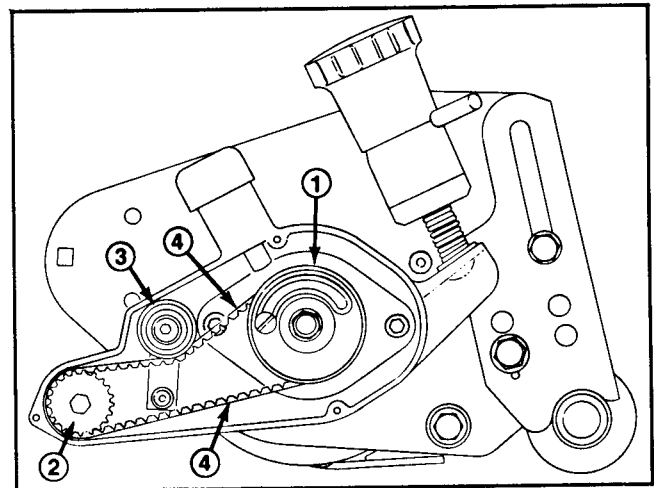

Figure 22
2. Apply 5-10 lb. of force on the belt midway between the pulleys to check tension on the drive belt. There should be 1/4 inch belt deflection. If deflection is not 1/4 inch, loosen the idler pulley pivot screw (Fig. 22). Pivot the idler to get proper tension and tighten the allen head screw to a torque of 7-10 ft-lb.
3. Install groomer reel housing cover. Install clutch knob and tighten two (2) set screws against flats on release disk.